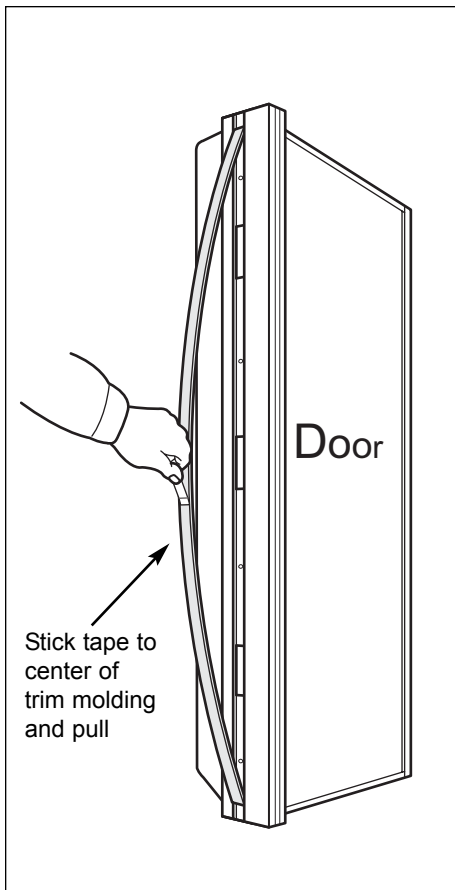

Figure 2-9. Molding Removal
- a. Using piece of tape stuck to magnetic trim molding center, pull trim molding out at midpoint to expose handle/trim mounting screws (See Figure 2-9).